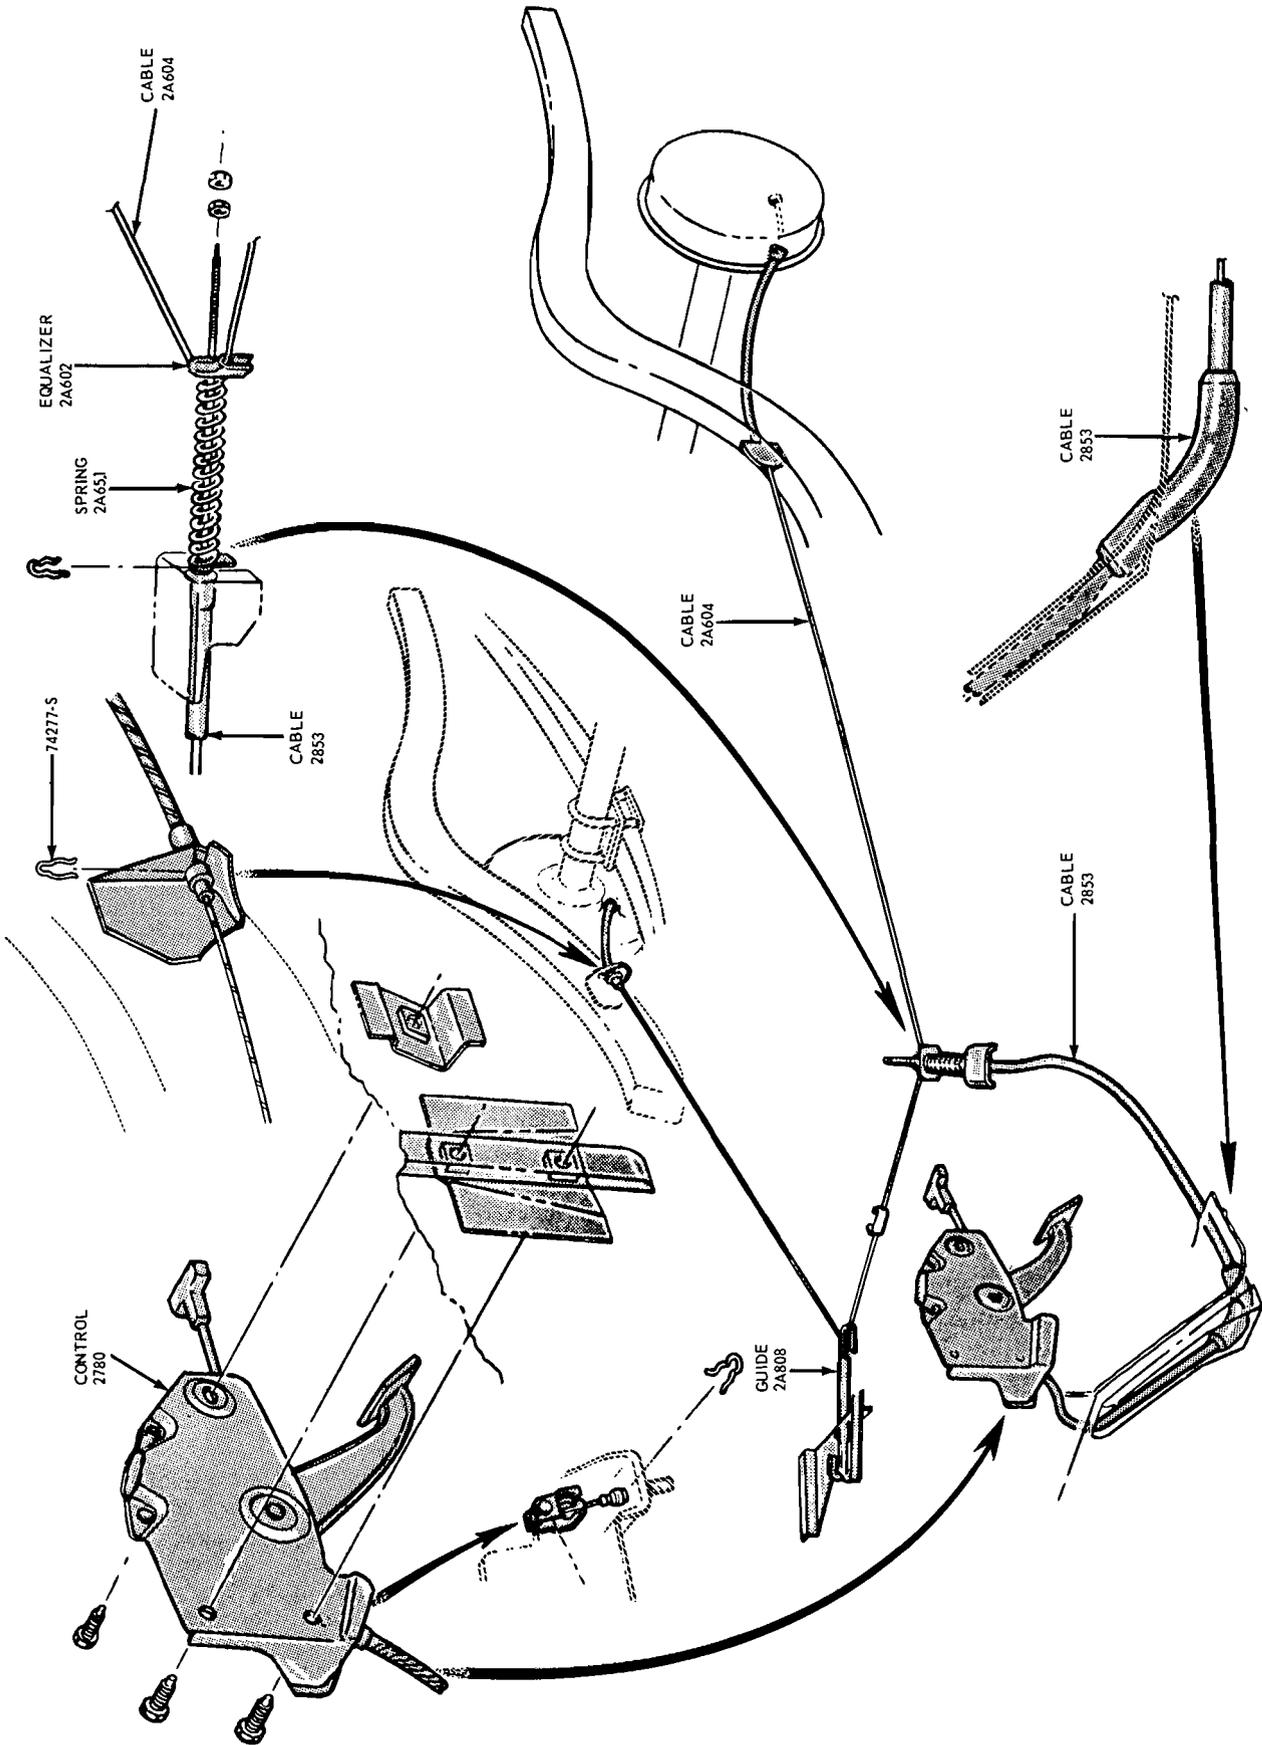

FIG. 29—Parking Brake Linkage—Comet-Fairlane-Falcon
1. Make sure the parking brake is completely released. Remove the 3 screws (Fig. 29) that attach the control assembly to the cowl inner side panel.
1. Remove the two nuts that attach the cable to the equalizer and remove the equalizer and spring (Fig. 29).
2. With the cables slack, disconnect the ball-ends from the connector (Fig. 29).